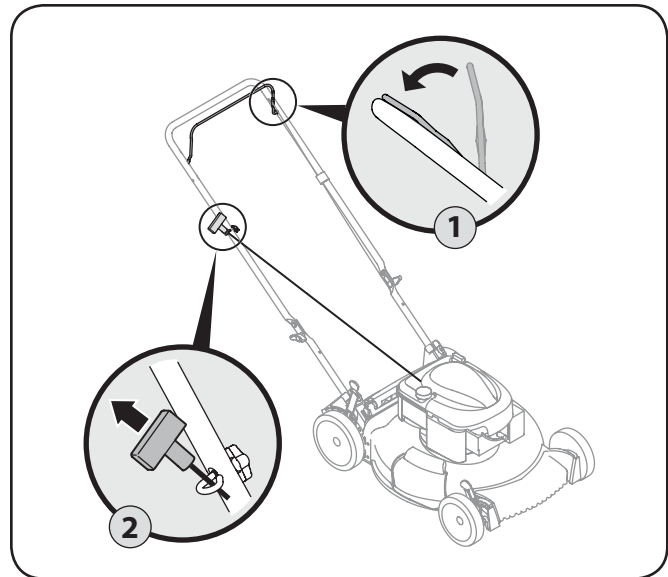

Figure 5-1
1. Standing behind the mower, squeeze the blade control against upper handle. See Fig. 5-1.
2. Holding these two handles together firmly, grasp recoil starter handle and pull rope out with a rapid, continuous, full arm stroke. See Fig. 5-1. Keeping a firm grip on the starter handle, let the rope rewind slowly. Repeat until engine cranks. Let the rope rewind each time slowly.